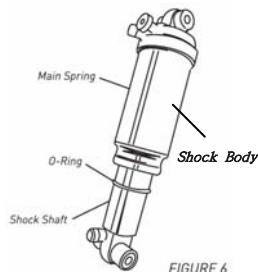

FIGURE 6
3. Position your bicycle next to a wall so that you can sit on the bike with both feet on the pedals while steadying yourself with one arm. Gently sit on the saddle without bouncing. Dismount gently without bouncing and look at how far the O-ring has moved down the shaft. Measure distance O-ring has moved (figure 6).